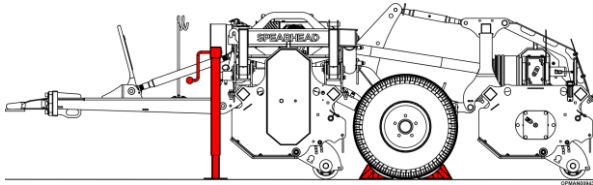

Figure 5.60
- 5.6.3.4 Fully support the centre chassis and bodies of the machine with fixed stands or substantial blocks; see Figure 5.60.